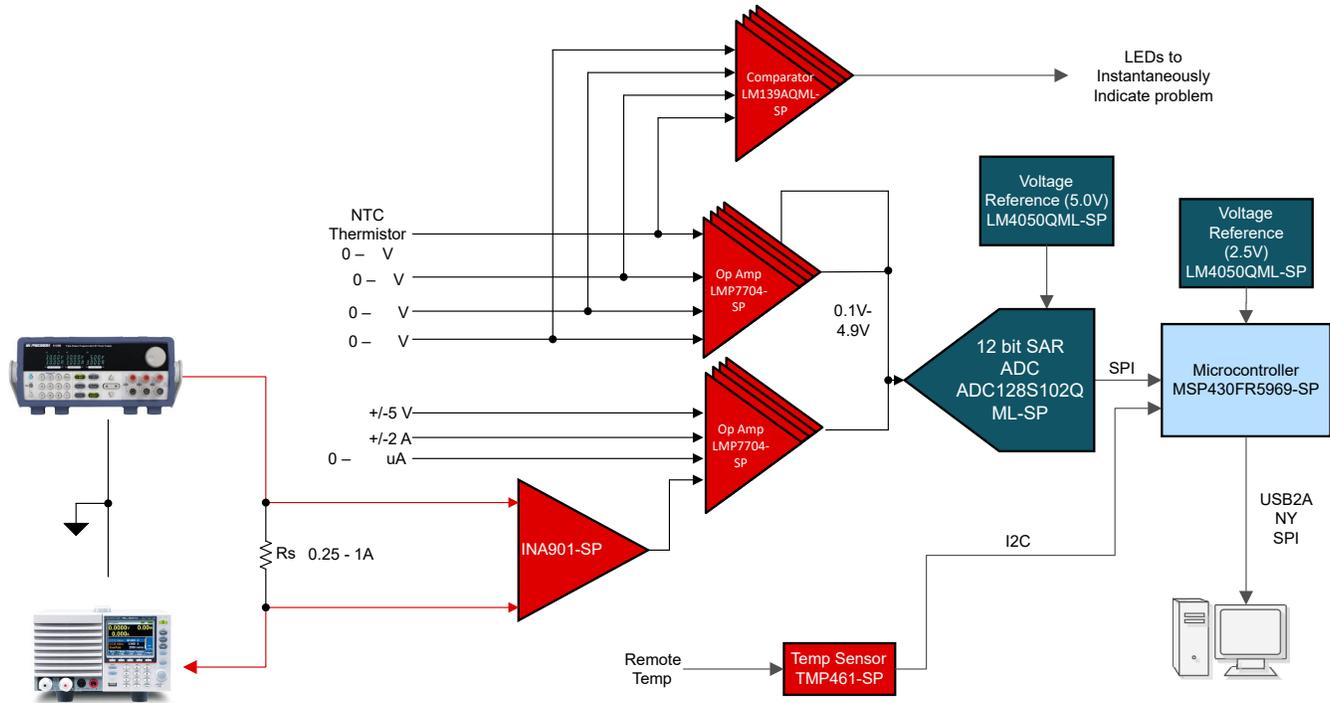

图 3-3. Current Monitor Test Setup
1. Connect the power supply to the desired terminal block as shown in 图 3-3.